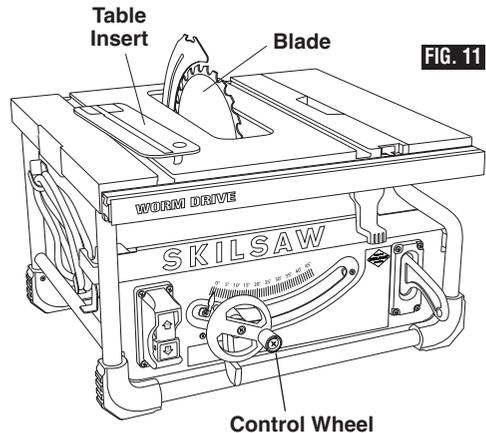

FIG. 11
1. Remove the table insert (Fig. 11).
2. Raise the blade to the maximum height by turning the control wheel clockwise (Fig. 11).